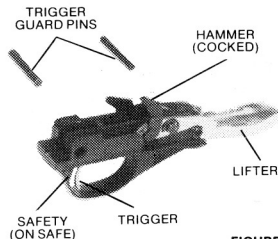

FIGURE 5
**Trigger Guard Assembly (Fig. 5)** — Push safety "ON SAFE". Close action. Push out front and rear trigger guard pins from either end. Remove trigger guard assembly from receiver. Inspect and brush clean whenever necessary. Clean as a unit. **NOTE:** Do not allow cocked hammer to snap forward with trigger guard assembly, breech bolt, or barrel removed from receiver of gun.